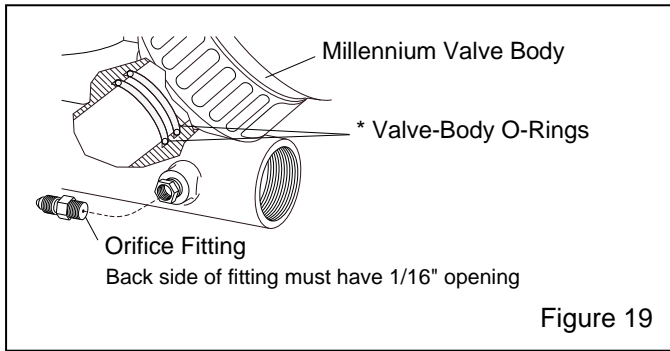

Figure 19
**6.3.1.7** Refer to Figure 19 and remove both O-rings from the inside the valve body.
**6.3.2.2** Refer to Figure 19 and install new valve-body O-rings.
**6.3.2.10** If fittings on the body were removed, make sure the 1/16" orifice fitting is threaded into the port as shown in Figure 19.